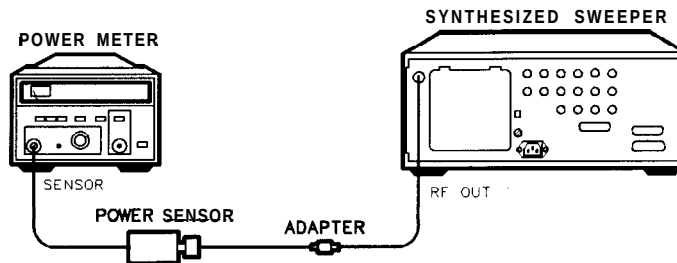

Figure 2-2. Maximum Levelled Power Setup
1. Connect the equipment as shown in Figure 2-2. Let the power meter warm up for at least one hour. Calibrate and zero the power meter.